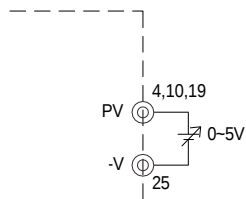

Figure 3-1 Connection for the external DC voltage source
◎Output voltage can be adjusted between 90%~110% of the rated value by adding external voltage source. Please refer to Figure 3-1 for details.
(1) Connect an external DC voltage source between PV (pin 4,10,19) and -V (pin 25) on CN500 connector, as shown in Figure 3-1.